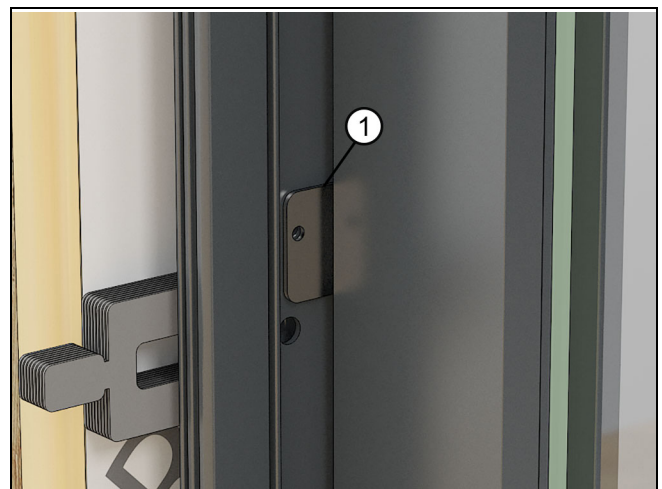
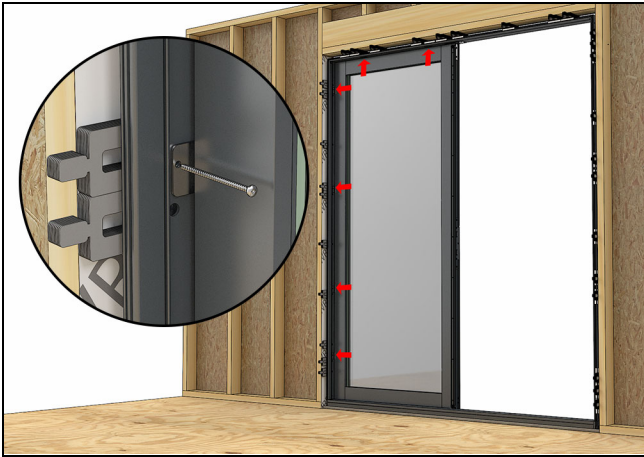

Figure 57
Figure 58
3. Adjust and line up the stationary brackets with the corresponding holes in the jamb. Run installation screws through the brackets and into the rough opening. Be sure to shim behind every screw location being careful not to bow the jamb. See Figure 57 and Figure 58.